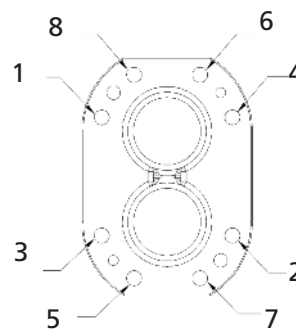

Figure 8. Bolt tightening sequence
4. Slide the cover over the dowel pin and replace the screws. Alternate tightening screw from top to bottom and side to side (Check fig 8)